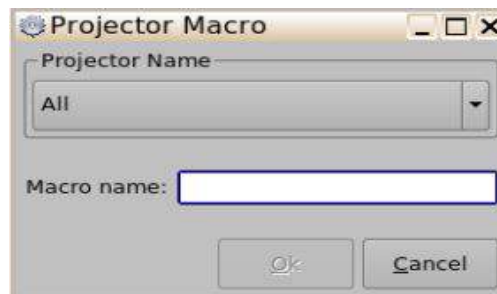

Figure 13: Projector Macro Window
- The user can configure the Macro Settings on the Projector Macro window (Figure 13).